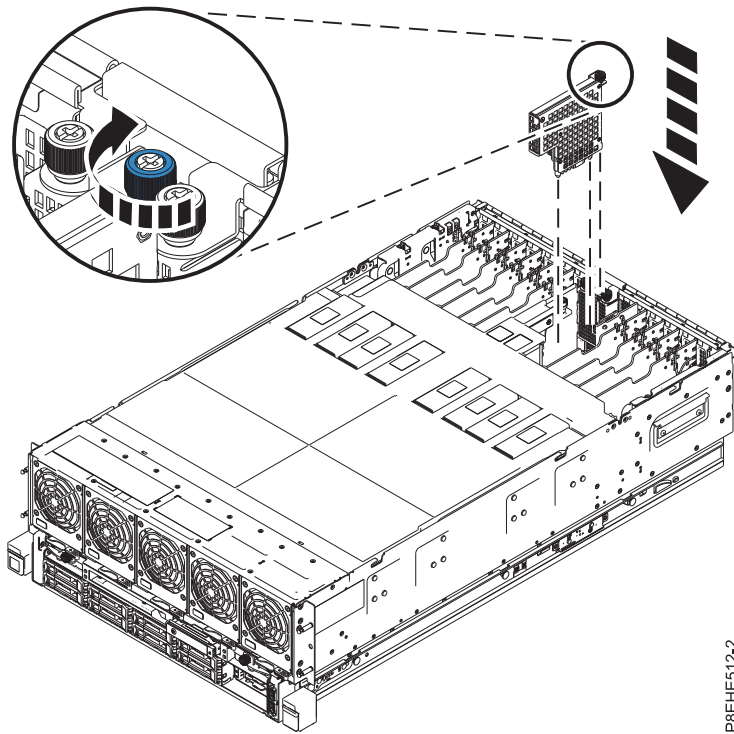

Figure 8. Installing the I/O voltage regulator module into slot P1-C13
- a. Align the I/O voltage regulator module with the guide rails on the system, as shown in Figure 8.
- c. Tighten the captive thumbscrew until it is secured to the system's chassis, as shown in Figure 8.